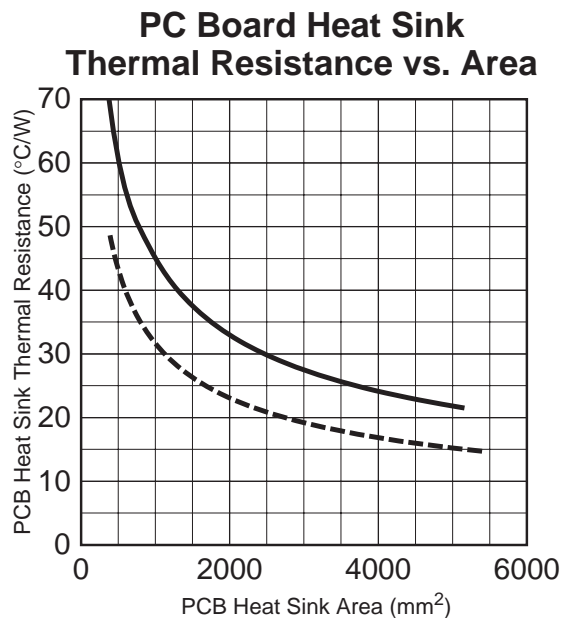

Figure 3. Thermal Resistance of Copper Trace Area
- Note:  $\theta_{SA} \approx 55^{\circ}\text{C} \cdot \text{in}^2/\text{W}$  (see Figure 3).
Table 1 and Figure 3 are provided as support and background information. Table 1 provides an input needed for Equation 1 (trace height), and Figure 3 indicates that 1 in2 (645 mm2) of solder-masked copper in still air has a thermal resistance of 55°C/W. Different situations; e.g., internal layers or plated copper, will have different thermal resistances. Other references include: